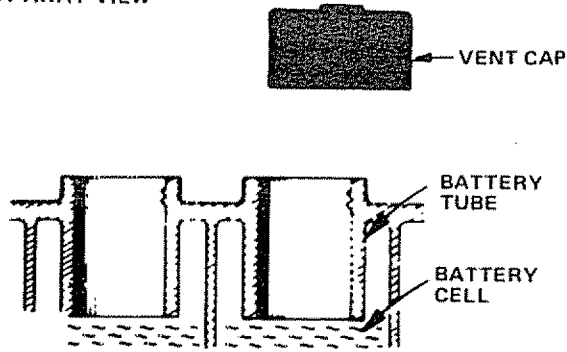

FIGURE 32
- a. Electrolyte solution level in each Battery Cell should be even with bottoms of tubes in cells (Fig. 32). Add distilled water if necessary. NOTE: DO NOT OVERFILL